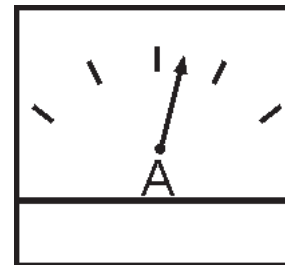

Figure 55. Ammeter (Load)
16. Observe the generator's ammeter (Figure 55) and verify it reads the anticipated amount of current with respect to the load. The ammeter will only display a current reading if the load is in use.